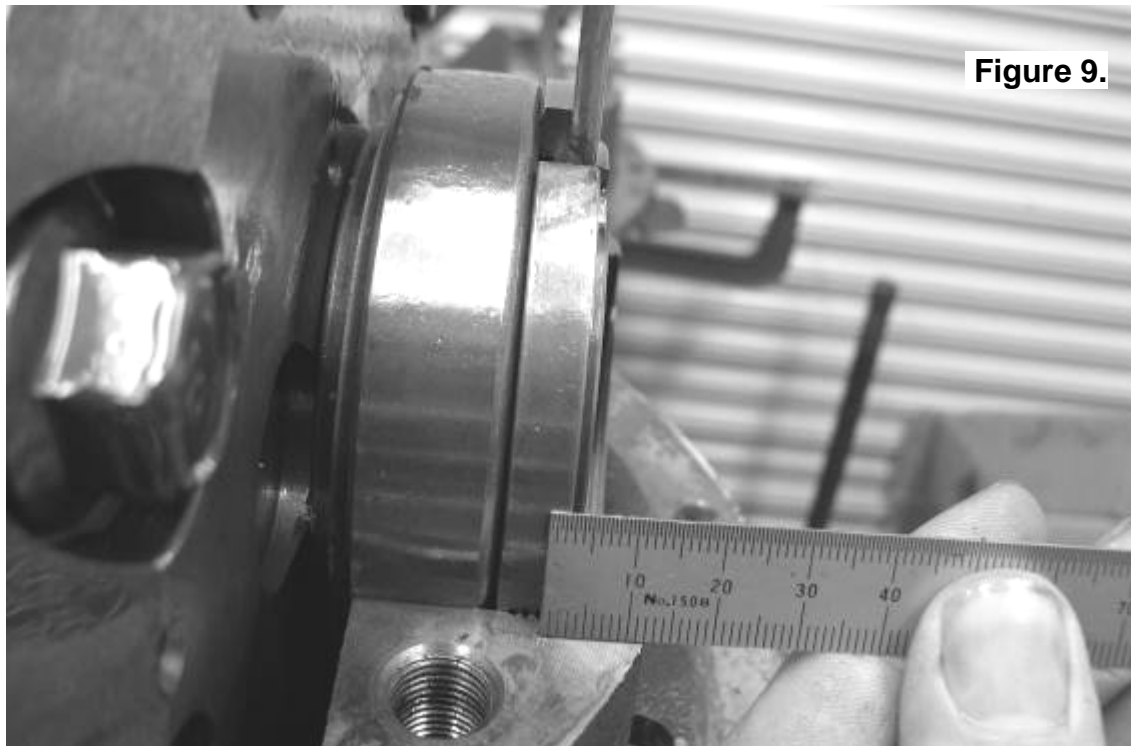

Figure 9.
- ☐ Measure the distance from the outside edge of the left hand bearing cap, to the centerline of the seal housing tube as shown in Fig 9. This measurement is required for positioning the hole. As can be seen, in this example the distance is approximately 12mm.